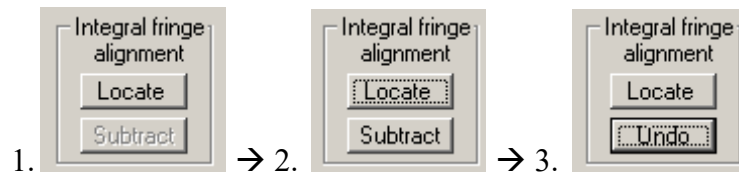
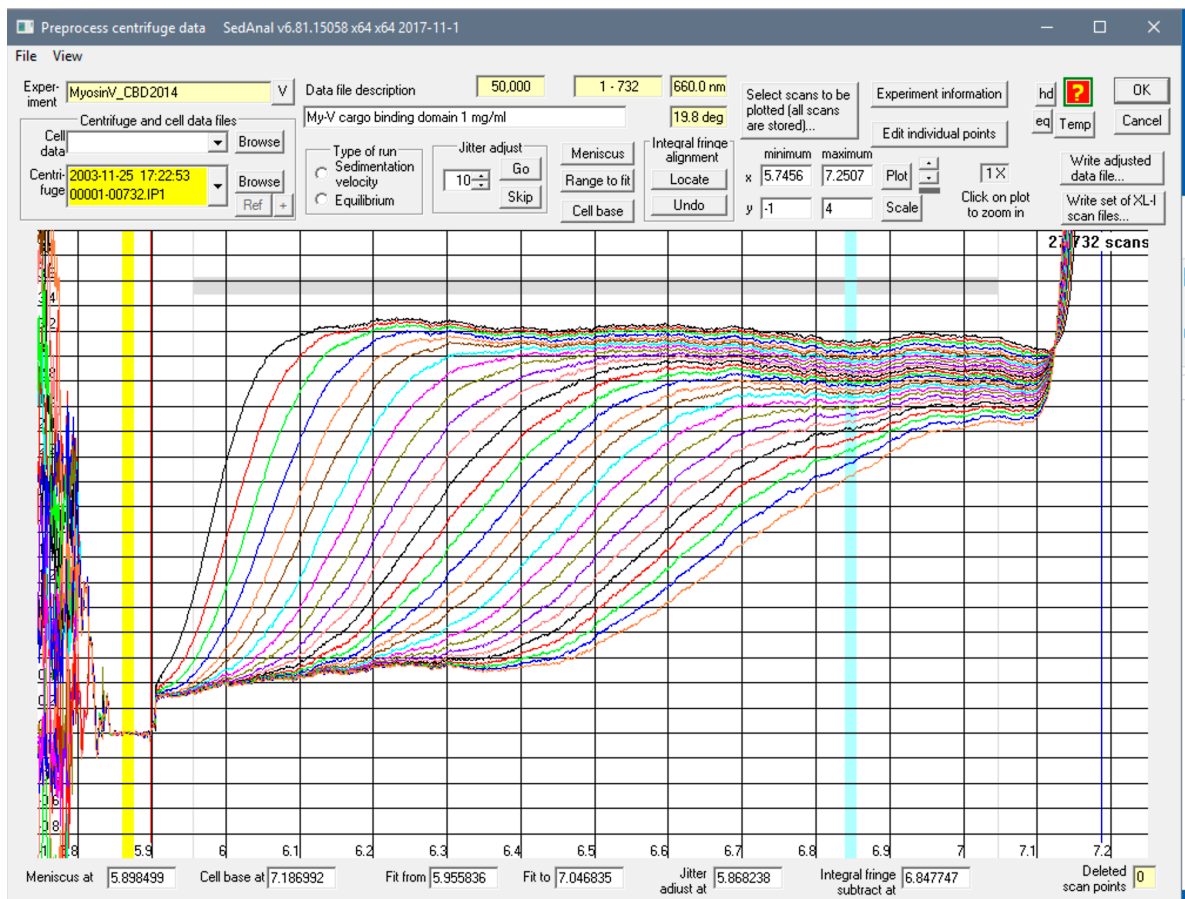

Figure 3-35 Re-adjust the data for integral fringe shifts.
Figure 3-36 Scans adjusted for integral fringe shifts
The next step is to re-adjust the data for integral fringe shifts introduced by the data acquisition software at the meniscus. Next (1) click on the "Locate" button and select a spot – usually someplace near the bottom in the plateau region – by clicking there. Then (2) click the "Subtract" button. The result will be as shown in Figure 3-36, and the buttons will look like (3) above (Figure 3-35). Clicking the "undo" button will undo the last adjustment.
After the fringe adjustments have been completed and after the meniscus, base and range to be fitted have been selected, the screen will look like one presented in with all five windows at the bottom filled in their corresponding values (Figure 3-36).